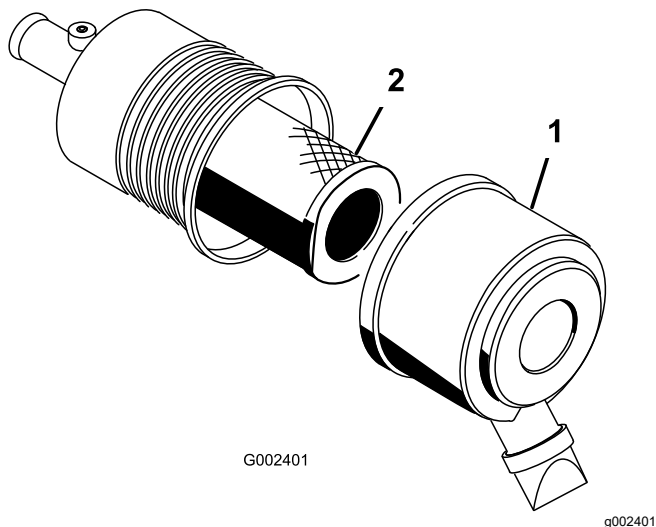

Figure 33
1. Release the latches on the air cleaner and pull the air-cleaner cover off the air-cleaner body (Figure 33).
3. Gently slide the filter out of the air-cleaner body (Figure 33).
5. Carefully slide the filter over the body tube (Figure 33).
6. Install the air-cleaner cover with the side facing up, and secure the latches (Figure 33).